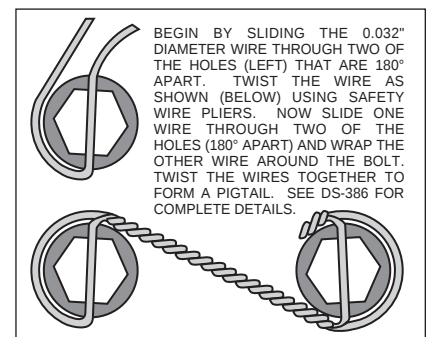

Figure 5. Safety Wire Diagram
- With the larger I.D. side of the rotor (4) facing away from the hat (3), bolt rotor (4) to hat (3) through the backside of the rotor using washers (5) and bolts (6). Using an alternating sequence, apply red *Loctite*® 271 to the threads and torque bolts to 140 in-lb. For an added measure of security, the bolts may be safety wired using standard 0.032 inch diameter stainless steel safety wire as shown in Figure 5. Please refer to Wilwood's data sheet DS-386 (available at www.wilwood.com/Pdf/DataSheets/ds386.pdf) for complete safety wire installation instructions.
- Slide the rotor registration adapter (18) onto the axle register on the axle flange with the smaller O.D. facing toward the rotor/hat (3). Align the correct hole pattern in the hat with the stud pattern on the axle flange. **NOTE:** Some OEM and aftermarket axles come with stud sizes larger than 0.50" diameter. Verify stud size and have a qualified machine shop drill the hats to the correct size, if necessary. Slide the hat/rotor assembly (3 and 4) over the wheel studs covering the bracket kit assembly (1) and against the axle flange face. Check to be sure the hat seats squarely against the hub. Install a couple of lug nuts (finger tighten) to keep the rotor/hat assembly in place while continuing with the installation.